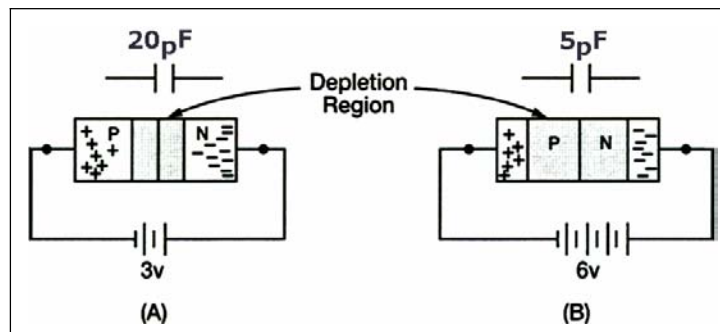

Figure 3-15. Varactor Capacitance Versus Bias Voltage
3-30. The ratio of varactor capacitance to reverse-bias voltage change may be as high as 10 to 1. Figure 3-15 shows one example of the voltage-to-capacitance ratio. View (A) shows that a reverse bias of 3 volts produces a capacitance of 20 picofarads in the varactor. If the reverse bias is increased to 6 volts, as shown in view (B), the depletion region widens and capacitance drops to 5 picofarads. Each 1-volt increase in bias voltage causes a 5-picofarad decrease in the capacitance of the varactor. The ratio of change is therefore 5 to 1. Of course any decrease in applied bias voltage would cause a proportionate increase in capacitance, as the depletion region narrows. Notice that the value of the capacitance is small in the picofarad range.